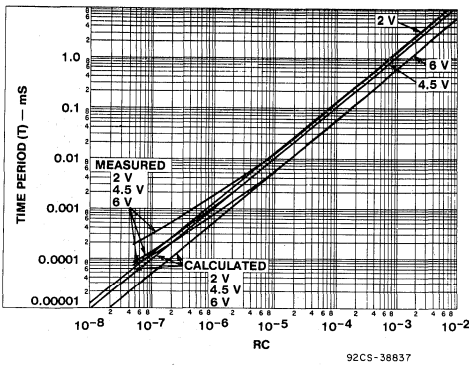
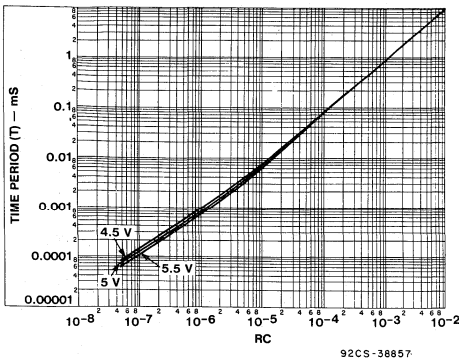

Fig. 12 - Measured and calculated time period of oscillating HC132 as a function of time constant RC.
Fig. 13 - Measured time period of oscillating HCT132 as a function of time constant RC.
Fig. 12 plots measured T versus RC for the HC132. Also plotted in Fig. 12 are calculated values of T versus RC using equation (7). Fig. 13 is a plot of measured T versus RC for the HCT132. Figs. 14(a) and 14(b) show measured power dissipation as a function of time-constant RC in oscillators employing the HC132 and HCT132, respectively.